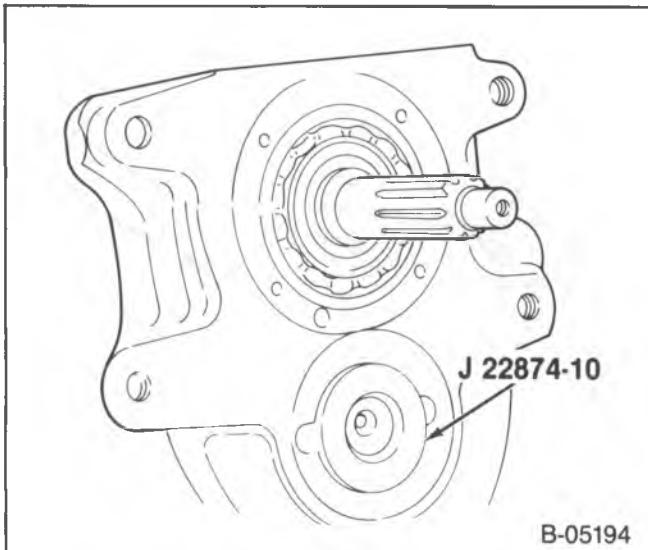
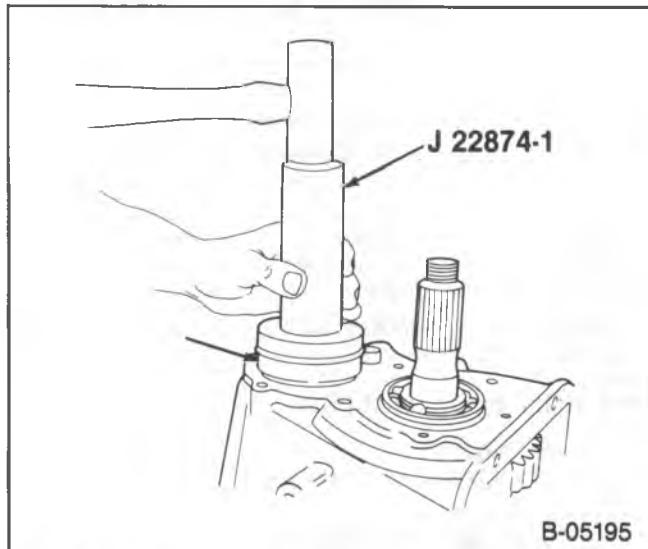

Figure 36—Tool J-22874-10 Installed
Figure 37—Installing the Countergear Rear Bearing
- 7. Bearing retainer (202) and a new gasket.
- 8. Countergear rear bearing (228).
- Support the front of the countergear using J 22874-10, (figure 36).
- New snap ring (225) onto the bearing.
- Drive the bearing onto the countershaft until the snap ring is flush with the case, using J 22874-1, (figure 37).
- 9. New bearing retainer snap ring (226).
- 10. Countergear front bearing (237).
- 11. Cover (238) and a new gasket.
- 12. Speedometer gear (219).
- 13. Rear bearing retainer (223) and a new gasket.